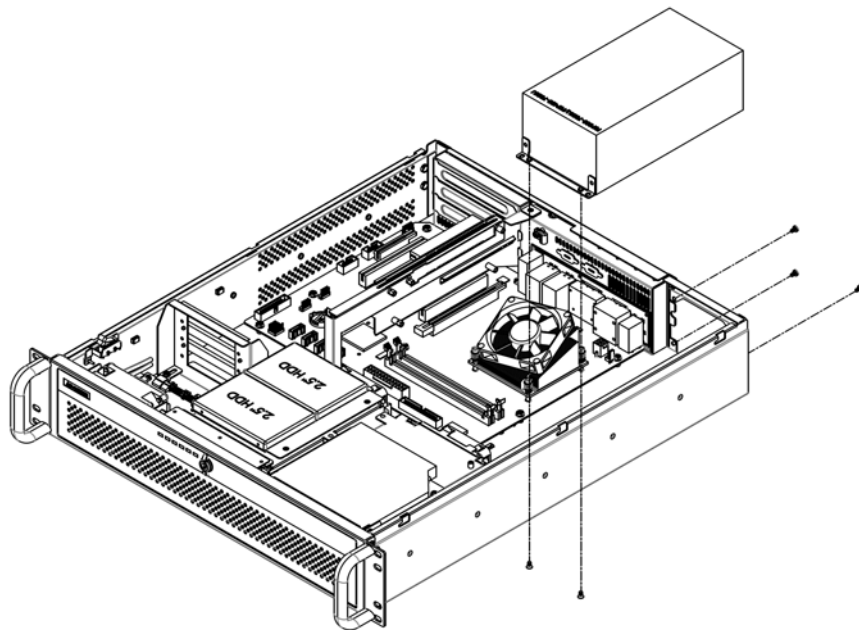

Figure 3.9: Replacing the power supply/ 更换电源 / 更換電源
4. Loosen the three screws on the rear plate and the two screws on the power supply bracket and then gently take it out. (see Figure 3.9)
4. 卸下后面板上的 3 个螺丝和电源支架上的 2 个螺丝，然后取出电源（如图 3.9）。